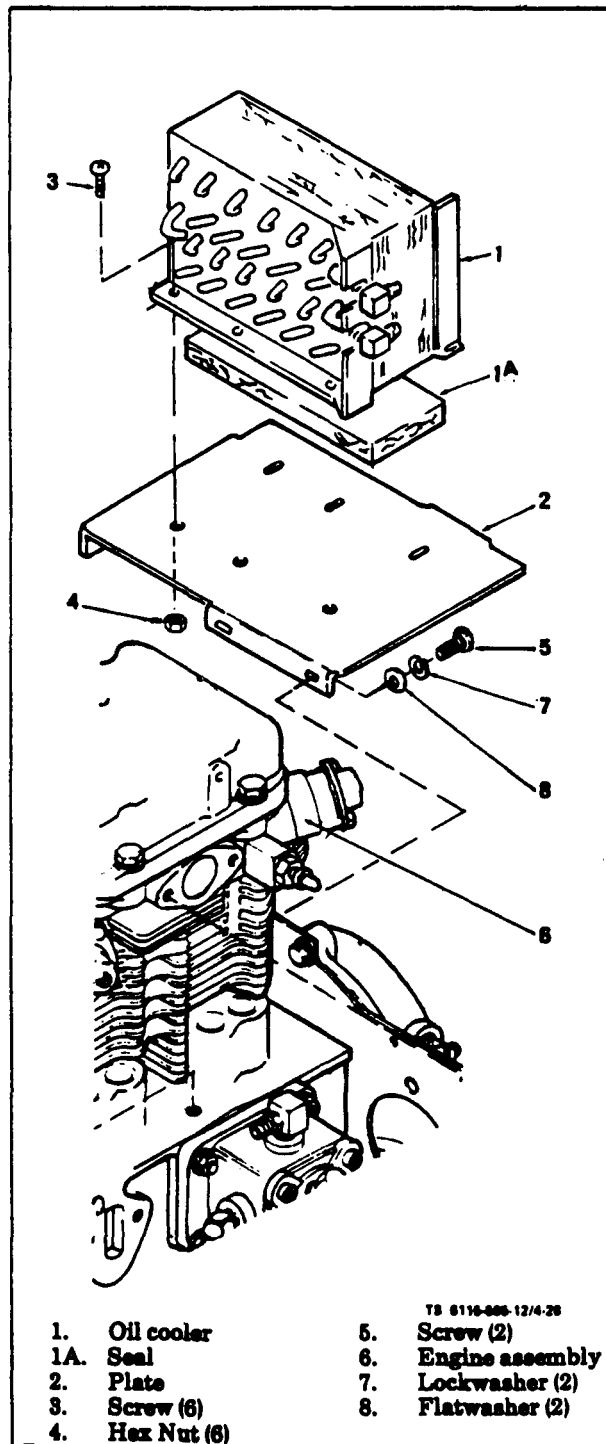
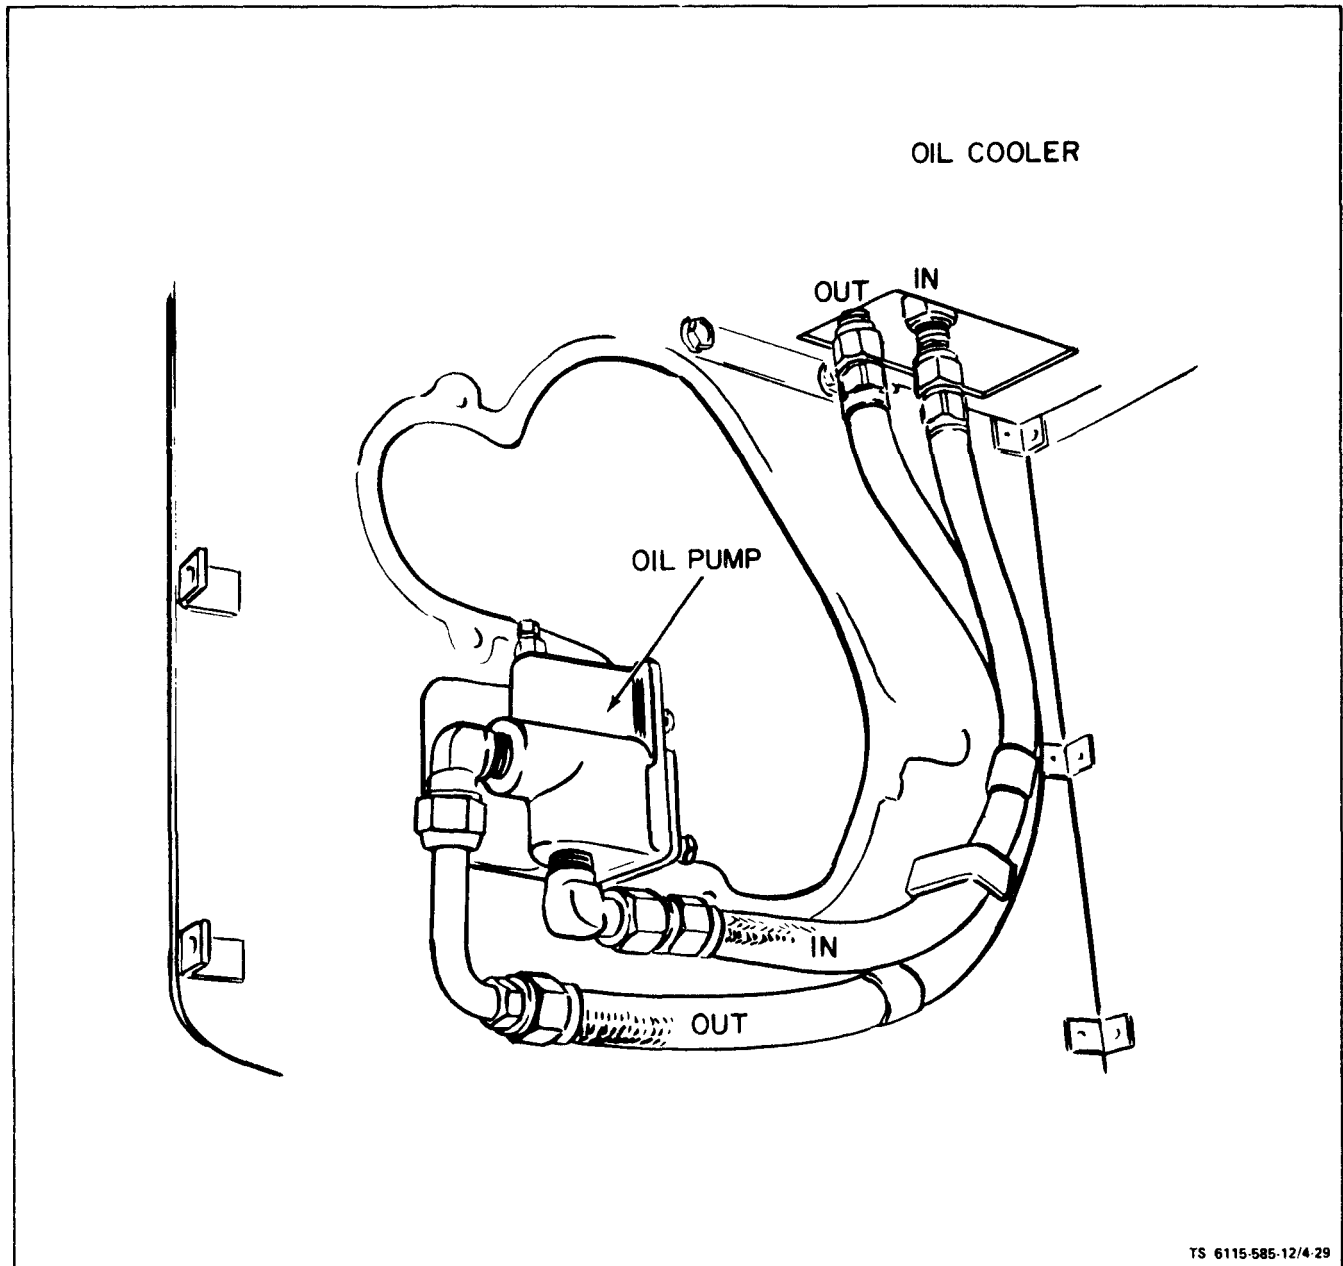

Figure 4-28. Oil Cooler Assembly
Figure 4-29. Replacing Oil Cooler Hoses
a. Inspect (see figure 4-28). On ASK equipped generators, remove ASK cover assembly (para. 5-3). Inspect oil cooler (1) for physical damage. Visually check for leaks where oil cooler is connected to oil hoses (figure 4-29 or 4-29.1). Check that cooler is securely fastened to mounting plate (2, figure 4-28) and that plate is securely fastened to engine. Inspect oil hoses
for leaks and physical damage. Inspect seal (1A, figure 4-28) and replace if damaged. Blower housing must be removed to inspect cooler and hoses.
c. Remove. Remove blower housing. Disconnect oil cooler hoses at valve of oil filter adapter (see figure 4-29). Drain cooler into suitable container. Remove machine screws (3, figure 4-28) and hex nuts (4) attaching oil cooler (1) and oil cooler seal (1A) to mounting plate (2) and remove cooler (1). Remove and check hoses. Plug hose if not used immediately.
d. Replace. Install oil cooler (1) and oil cooler seal (1A) on mounting plate (2) and secure with screws (3) and hex nuts (4). Attach oil hoses to cooler as shown in figure 4-29 or 4-29.1. Replace blower housing shown in figure 4-29 or 4-29.1. Replace blower housing. Replace any oil lost. On ASK equipped generators, replace ASK cover assembly (para 5-3).